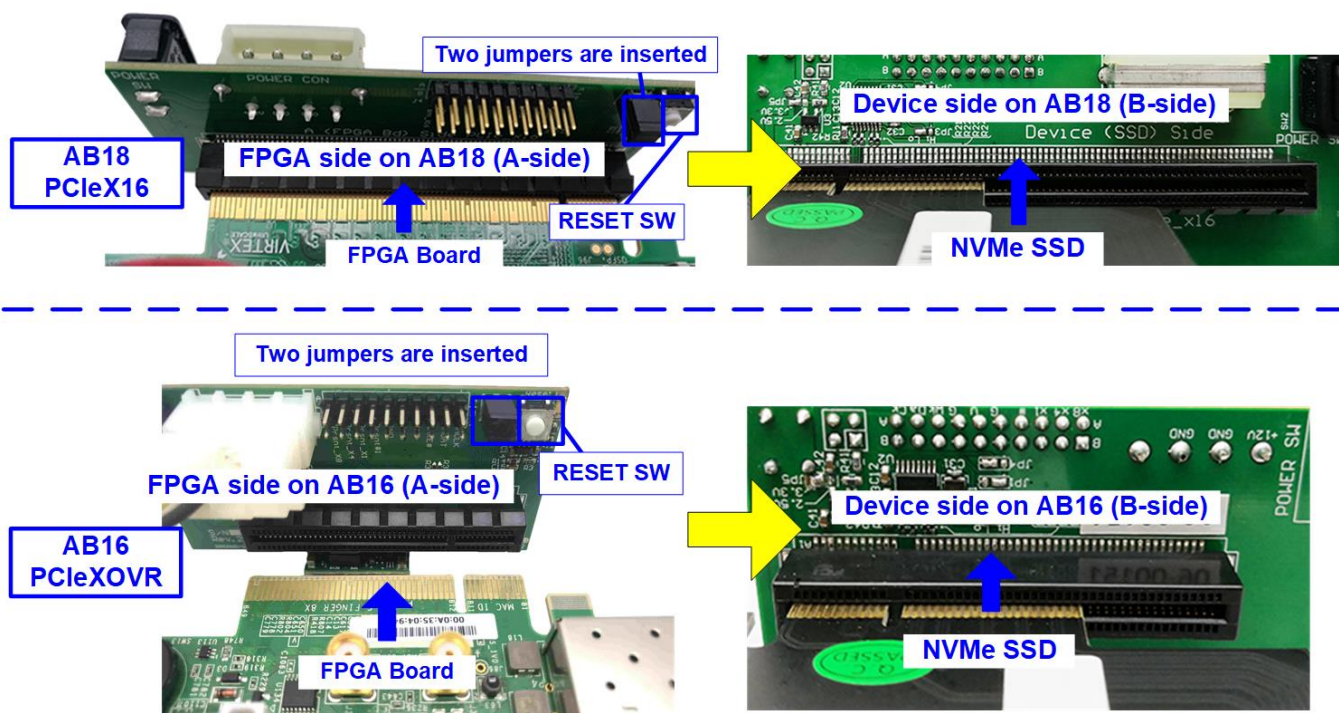

Figure 2-4 Connect Adapter board to NVMe SSD (PCIe) and FPGA board
- Connect NVMe SSD (PCIe) to device side (B-Side) on AB18/AB16, as shown in Figure 2-4.